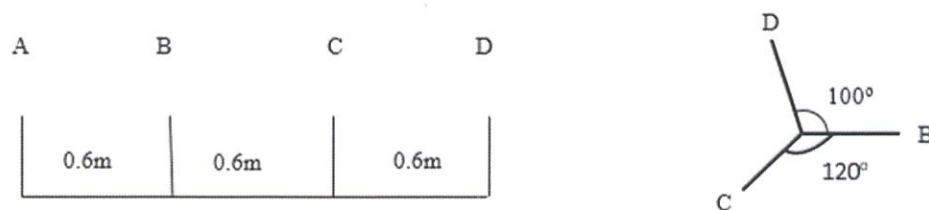

Figure 4(c) / Rajah 4(c)
- (c) A, B, C and D are four masses carried by a rotating shaft at radius 100mm, 125mm, 200mm and 150mm respectively. The planes in which the masses revolve are spaced 600mm apart and the mass of B, C and D are 10kg, 5kg and 4kg respectively. Figure 4(c) shown below: